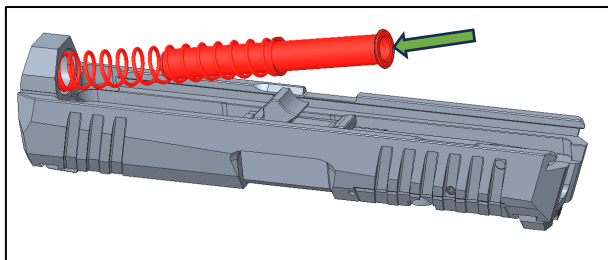

Figure 35: Inserting the exposed end of the recoil spring into the opening in front of the slide
2. Insert the exposed end of the recoil spring into the opening in front of the slide, below the barrel (Figure 35).